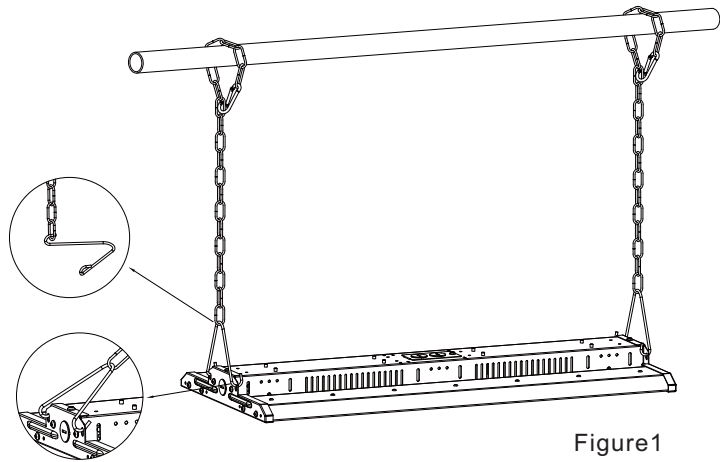

Figure1
- Step1. Hook up the chain; (Figure 1)
- Step2. Connect the chain with fixture; (Figure 1)
- Step3. Fix the chain on the rail, adjust the chain length as per need; (Figure 1)